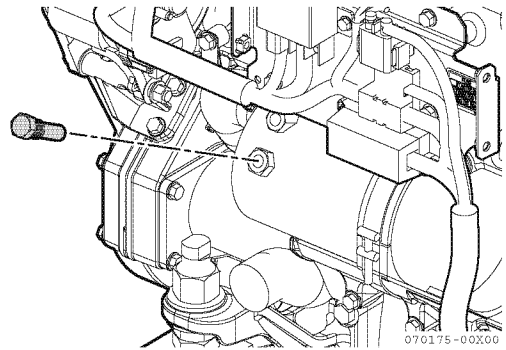
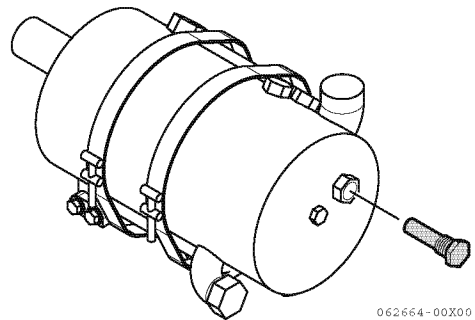
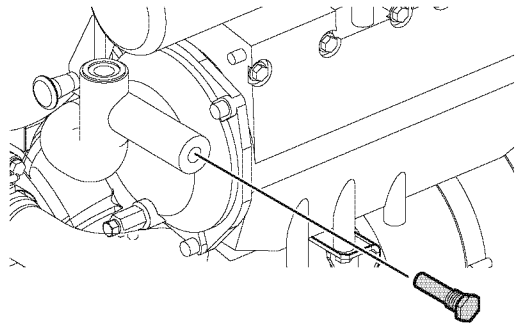

Figure 11
Figure 12
Figure 13
3. Remove all the plugs (**Figure 11**), (**Figure 12**) and (**Figure 13**) labeled ZINC (**Figure 10**).